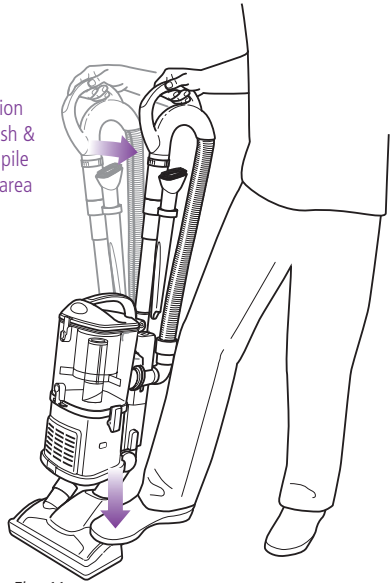

Fig. 11
- 4 Gently press the floor nozzle down with your foot while you grasp the handle and tilt it back towards you. (Fig. 11)